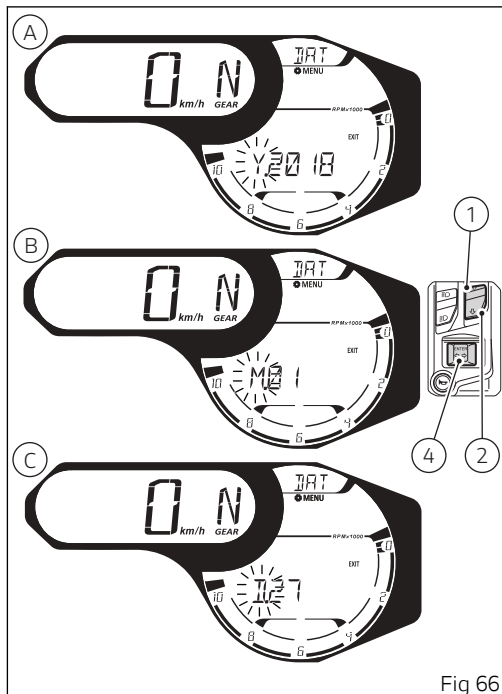

Fig 66
Use buttons (1) and (2) to select the flashing indication "Y." (A, Fig 66) and press button (4). Year 4-digit value starts flashing.
Once you reach the value to be set, press button (4) and the set year will stop flashing, while "Y." will be again flashing (A, Fig 66).
Use buttons (1) and (2) to select the flashing indication "M." (B, Fig 66) and press button (4).
Once you reach the value to be set, press button (4) and the set month will stop flashing, while "M." will be again flashing (B, Fig 66).
Use buttons (1) and (2) to select the flashing indication "D." (C, Fig 66) and press button (4). Once option is highlighted, press button (4).
Once you reach the value to be set, press button (4) and the set day will stop flashing, while "D." will be again flashing (C, Fig 66).